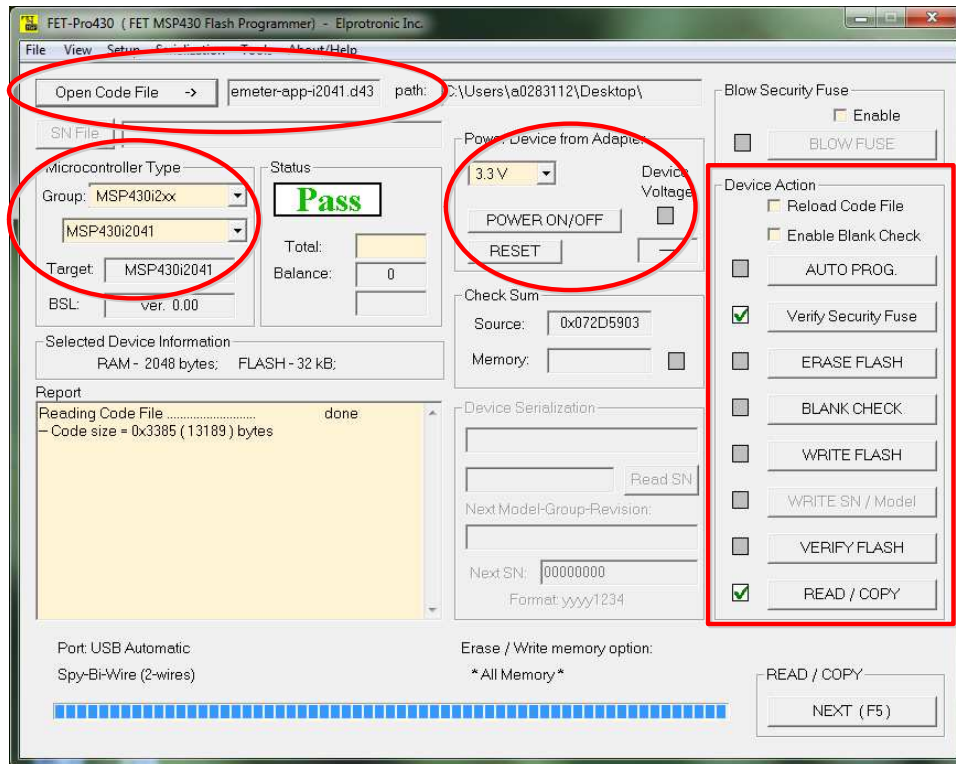

Figure 14. TIDM-3OUTSMTSTRP Programming Setup
10. Check the settings in the boxed-fields named *Microcontroller Type*, *Power Device from Adapter*, and *Device Action* (see Figure 14)